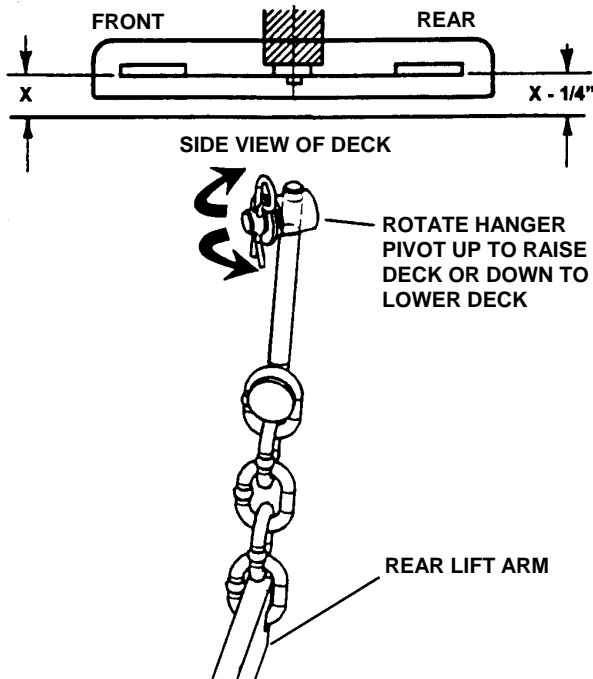

FIGURE 4.11
2. Turn each hanger pivot the same number of rotations on the eye-bolt to raise or lower the rear of the deck. See Figure 4.11.